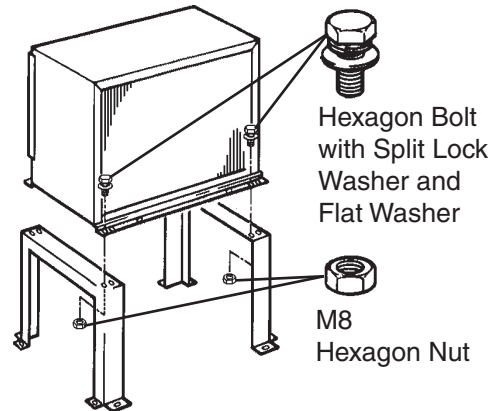

Fig. 10
- 1) Secure the legs to the remote condenser unit with eight M8×16 mm hexagon bolts and M8 nuts as shown in the illustration. See Fig. 10.